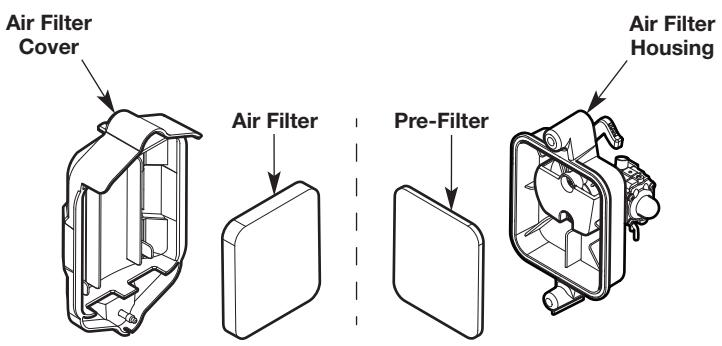

Fig. 15
3. Remove the air filter and pre-filter from the air filter housing (Fig. 15).
7. Reinstall the pre-filter inside the air filter housing or replace it (Fig. 15).
8. Place the air filter inside the air filter cover (Fig. 15).